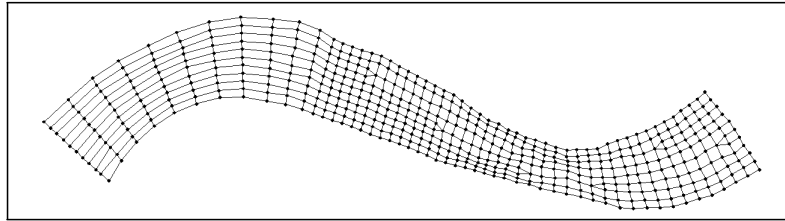

Figure 9 The finite element mesh after merging triangles.
1. Continue to merge triangles in the areas that you are able to do so. Not all of the triangles can be merged. When you are done, there should be only six triangles left in the finite element mesh, and it should look like that shown in Figure 9.